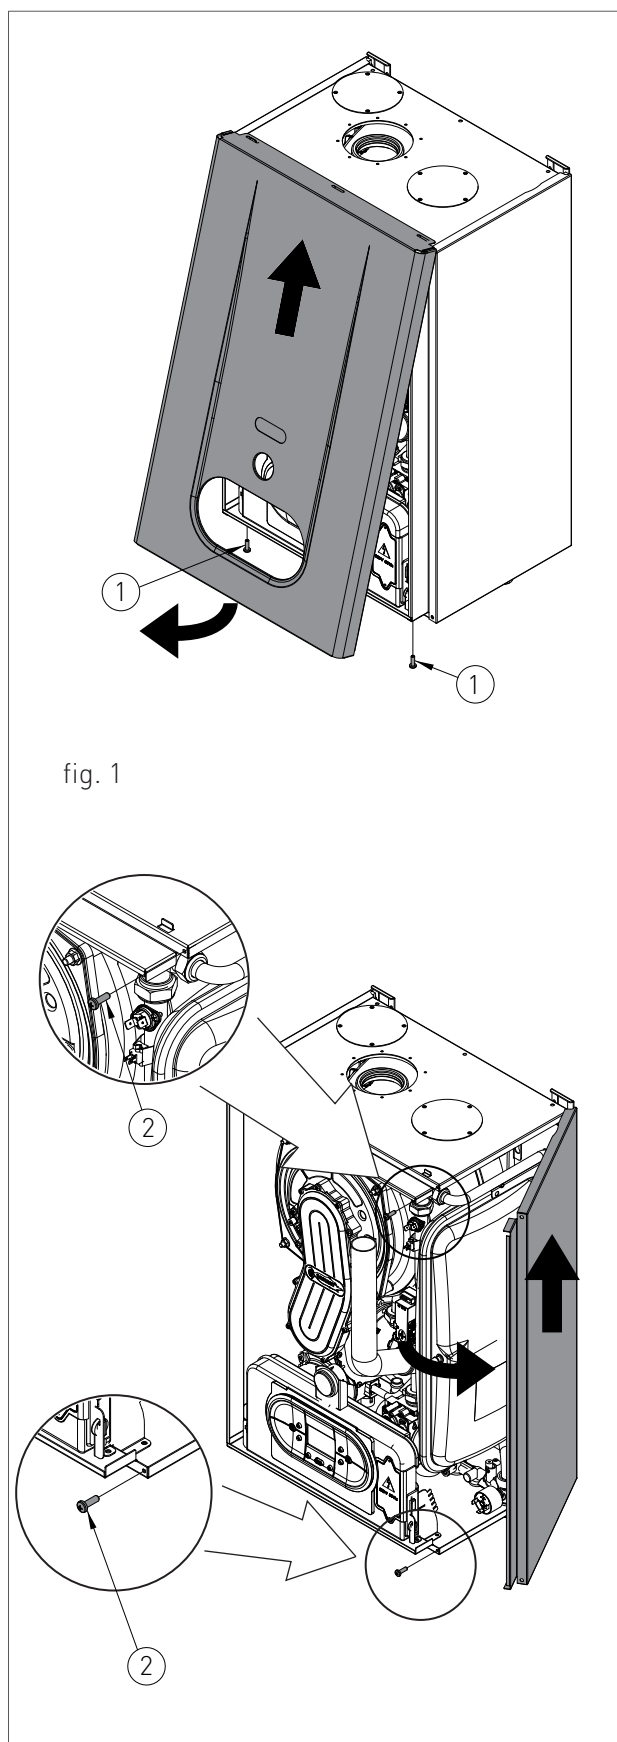

fig. 1
- › remove the fastening screws (2 - fig.1) placed on the front edge of the side panel;
- › grab the bottom of the panel and remove it by moving it sideways and then pulling it upwards (see fig. 1).